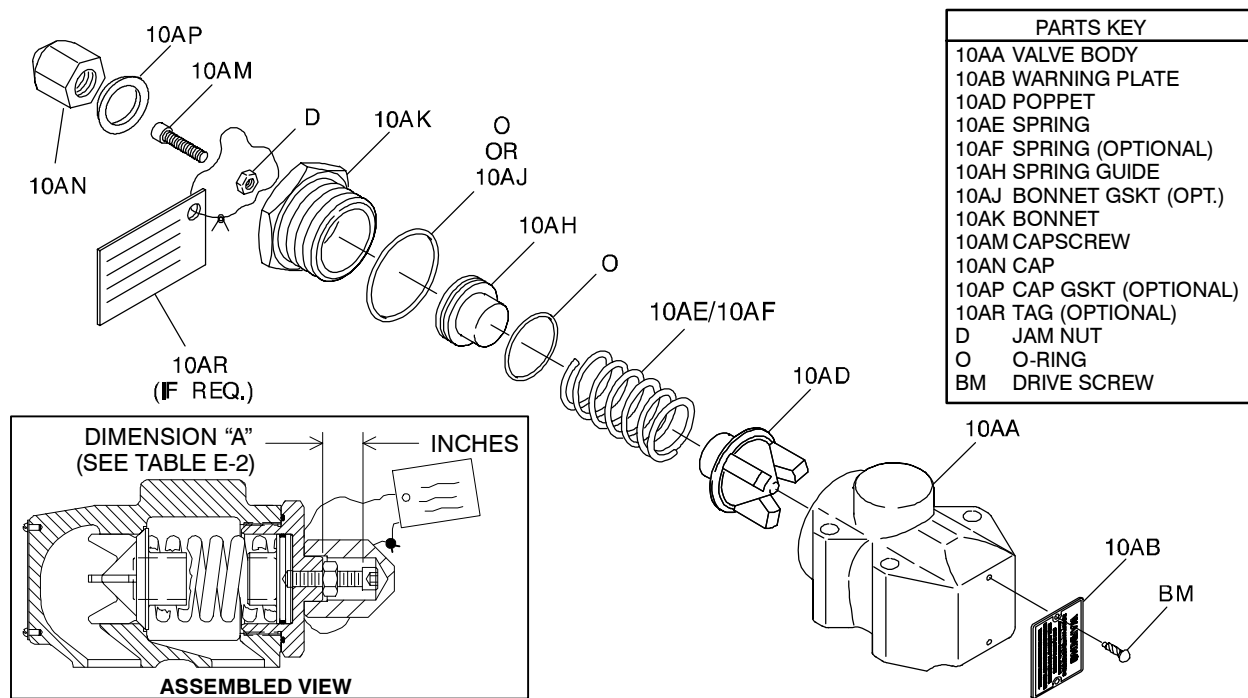

Figure E-7. Pressure Relief Valve Assembly
(Figure E-7)
Install the jam nut (D) on the adjustment capscrew (10AM) and thread the capscrew into the bonnet until the desired height ("A", Figure E-7) is reached. Refer to the separate Parts List accompanying your pump and determine the hydraulic size (D,G,J,N, etc.) and spring option code (STD, 25D, etc.) for your pump. See Table E-2 and adjust the capscrew (10AM) to the proper "A" dimension for the desired cracking pressure.
| PUMP HYDRAULIC SIZE | SINGLE SPRING OPTION CODE | CRACKING PRESSURE (PSI) | DIMENSION "A" (INCHES) Fig. E-7) | DOUBLE SPRING OPTION CODE | CRACKING PRESSURE (PSI) | DIMENSION "A" (INCHES) Fig. E-7) |